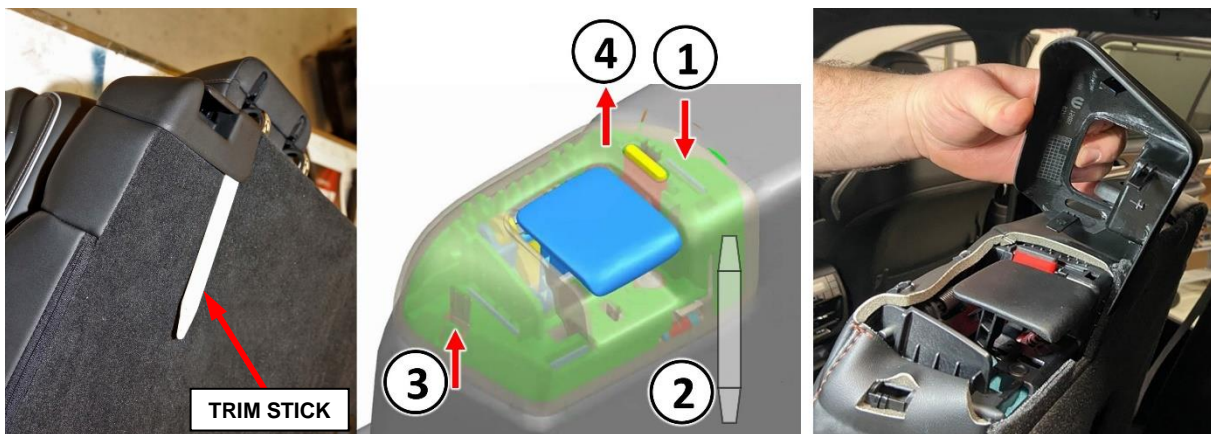

Figure 53 – EZ-Entry Handle Bezel
17. Remove the EZ-Entry handle bezel (Figure 53).
- a. While pushing down on rear inboard corner (1), slide trim stick (2) under rear of bezel from the inboard side. Then gently pry trim stick out 5-10 degrees, until the bezel pops up slightly. Keep light pressure Up on trim stick.
- b. Jostle / Lift Up at point (3) to disengage the outboard snap attachment, rotate trim stick slightly back and forth if needed.
- e. Pull on front inboard of bezel at (4) and at the same time push up on the trim stick to remove the EZ-Entry handle bezel.
62. Install the EZ-Entry handle bezel (Figure 53).